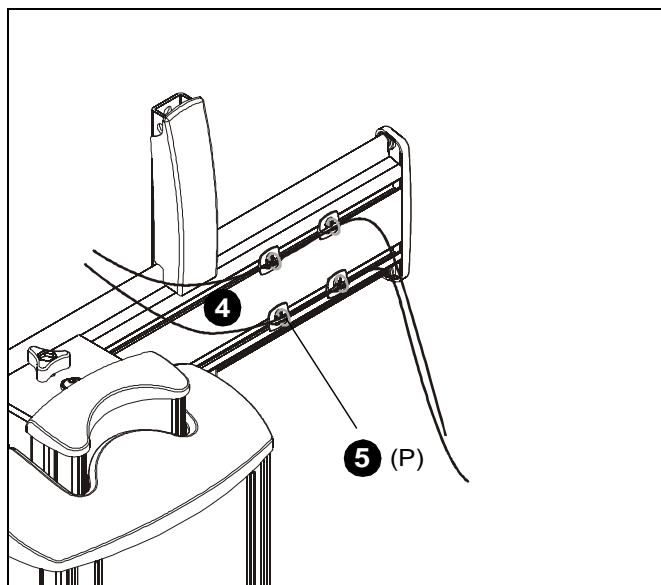

Figure 10
4. Route cables along FCA clips to be used for cable management. (See Figure 10)
5. Use cable ties (P) to secure cables to FCA clips. (See Figure 10)